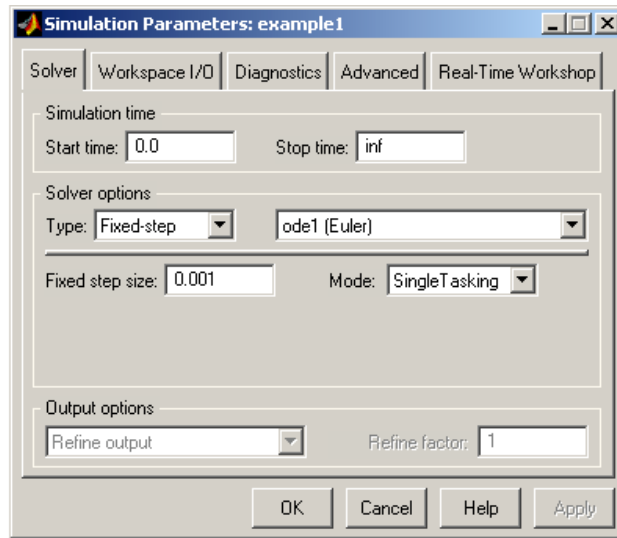

Figure 2.5: Simulation Parameter setting for real-time model
- Set the **Stop-Time** as ‘inf’. The simulation parameters should look like shown in Fig. 2.5